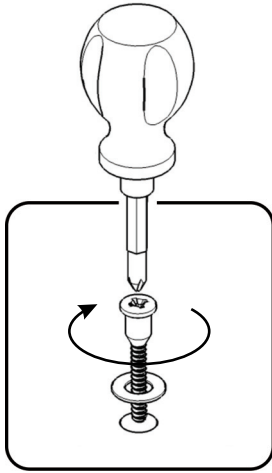

Figure 2
Attach Bottom (B) to Back Panel (F) with Flat Washers and Bolts. (See Figure 2)